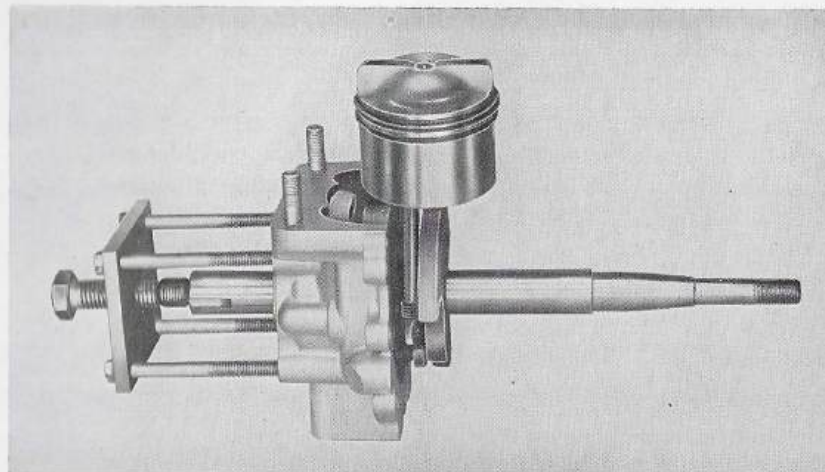

Figure 24—Disassembling Crankshaft
(4) To remove the front-half of crankcase, tap the end of the crankshaft lightly and slide front-half of crankcase from shaft.
(5) To remove governor, hold governor weight away from shaft and slide governor off shaft.
(6) Remove two special screws and thin lockwashers which hold the main bearing in position in the rear-half of the crankcase. Set these screws and lockwashers to one side; they are special.
(7) Use four screws, 1/4-20 x 3", through the four holes of the rotor puller and position puller on rear-half crankcase as shown in Figure 24. Turn down on jack screw to push shaft from rear-half crankcase.
(8) The main bearing is not to be removed from the crankshaft unless it is defective. To remove, pry off snap ring by inserting knife point in the retaining ring groove. Hold crankshaft in hand and tap on the outer edge of bearing.